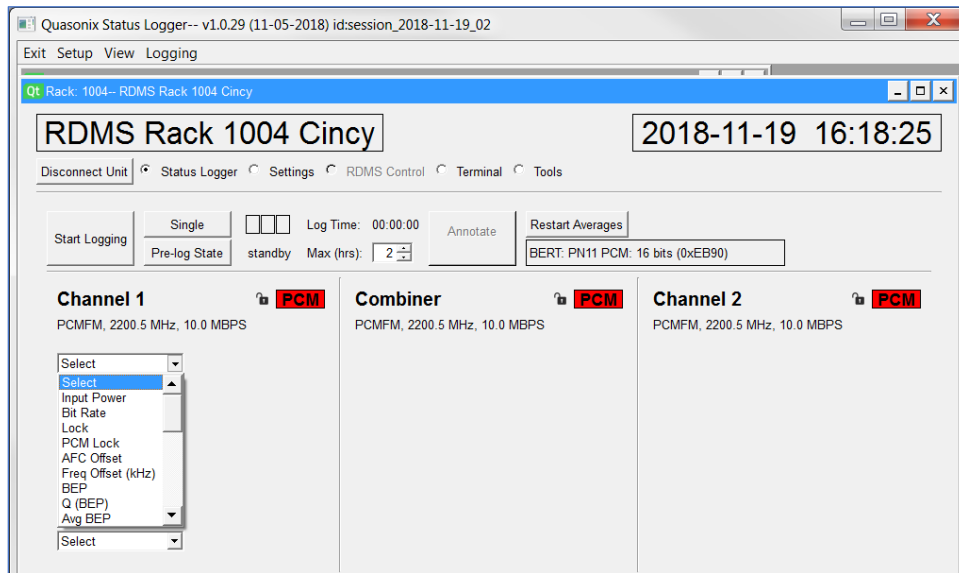

Figure 38: RDMS Rack Connection Screen with Open Drop Down Menu
The lower section of the screen contains drop down menus for up to five (5) real-time measurements. The first time the software is run, no graphics are selected, as shown in Figure 38.